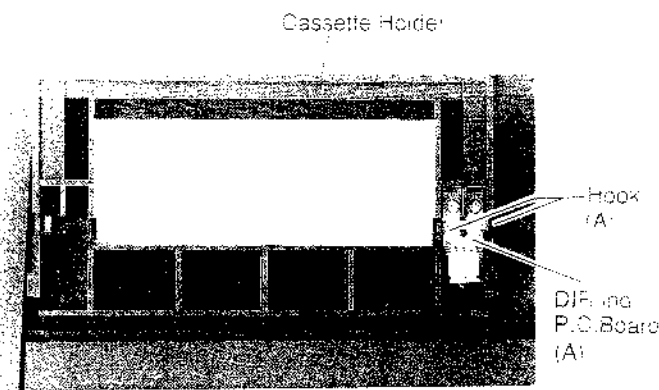

Figure 5
- (3) Remove two Hooks (A) as shown in Figure 5.